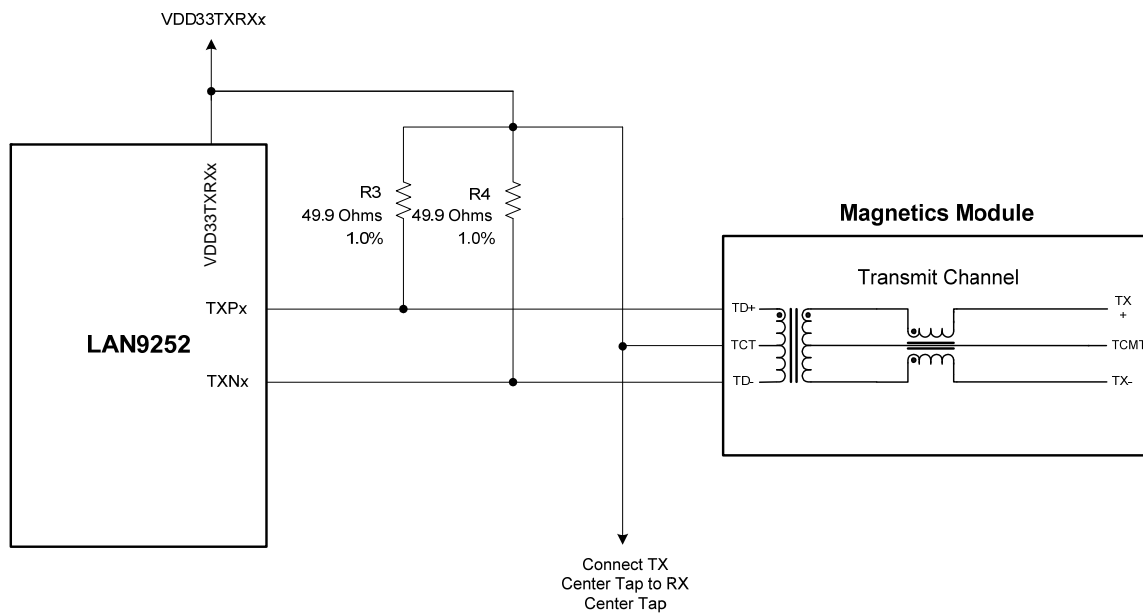

Figure 1 – Transmit Channel Connections and Terminations
3. For Port A, Transmit Channel connection and termination details, refer to Figure 1.
3. For Port B, Transmit Channel connection and termination details, refer to Figure 1.
3. For Port A, Fiber Transmit Channel connection details, refer to Figure 1.
3. For Port B, Fiber Transmit Channel connection details, refer to Figure 1.